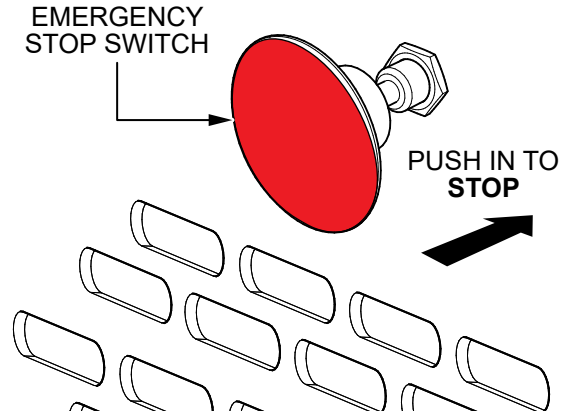

Figure 25. Emergency Stop Switch (STOP)
- Once the engine has started, the emergency stop switch should be tested for proper operation. Press the emergency stop switch (Figure 25) and observe that the engine has stopped.